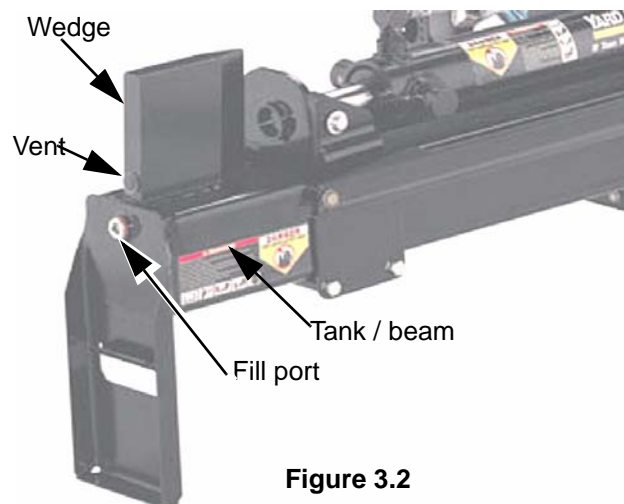
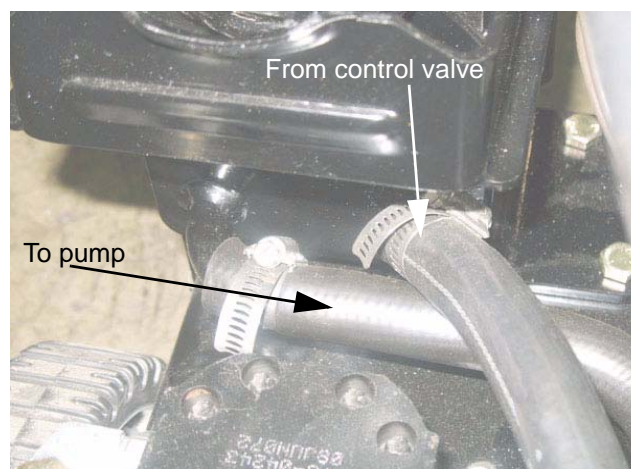

Figure 3.2
Figure 3.3
4.1. It starts at the **reservoir** (tank). See Figure 3.2. See Figure 3.3.